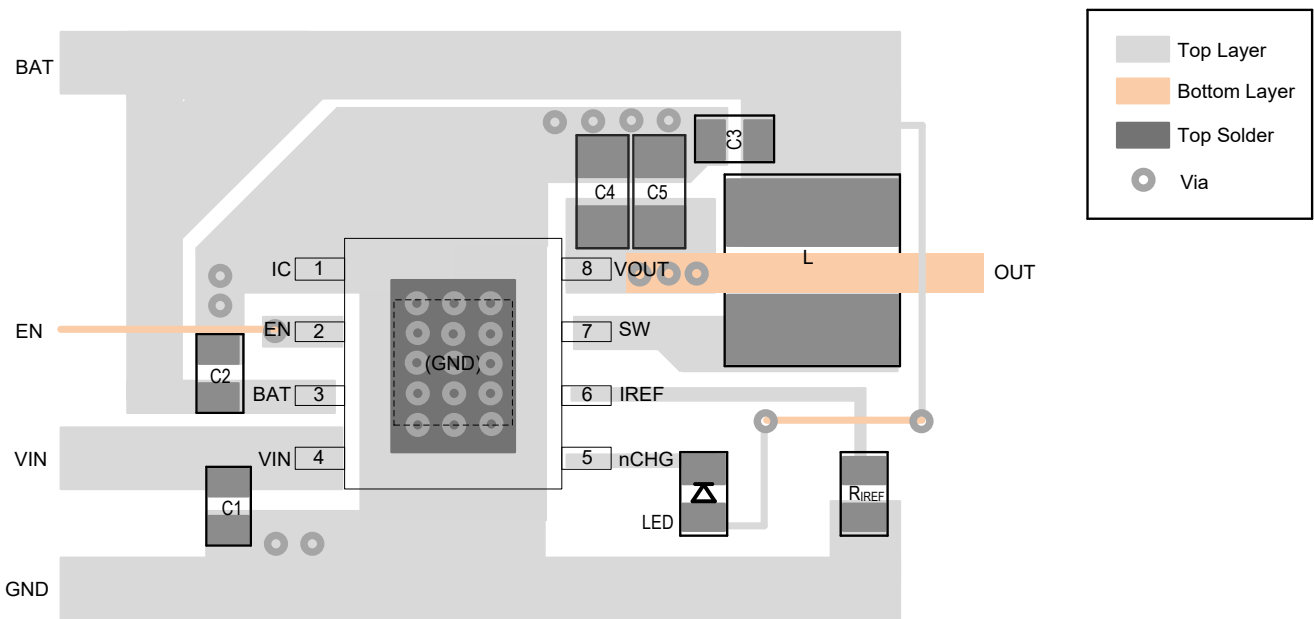

Figure 5. Layout Recommendation
**Layout Consideration:** The inductor current alternates between the ground EP and the output storage capacitors C4 - C5, while the input decoupling capacitor C3 makes the return loop of the inductor current ripple. Refer to Figure 5; it makes the ripple current loop as small as possible for stable and low loss operation.